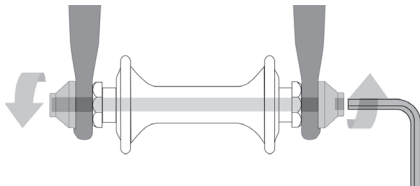

fig. 10
2. A hollow axle with a shaft ("skewer") running through it which has a nut on one end and a fitting for a hex key, lock lever or other tightening device on the other (through-bolt, **fig. 10**).